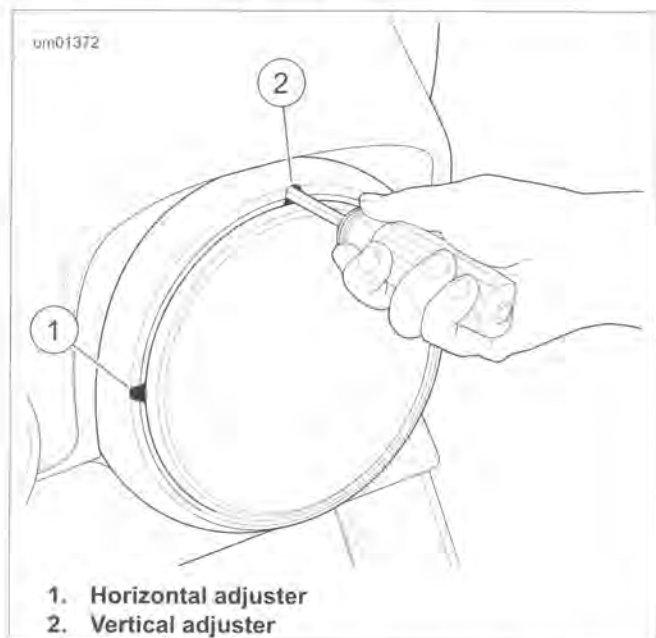

Figure 1-51. Headlamp Adjusters (typical)
2. See Figure 1-51. Insert a 5/32 inch ball end hex wrench through adjuster slots in trim ring.
- a. **Horizontal:** Turn the horizontal adjusting screw (1) to adjust light beam left and right.
- b. **Vertical:** Turn the vertical adjusting screw (2) to adjust light beam up and down.